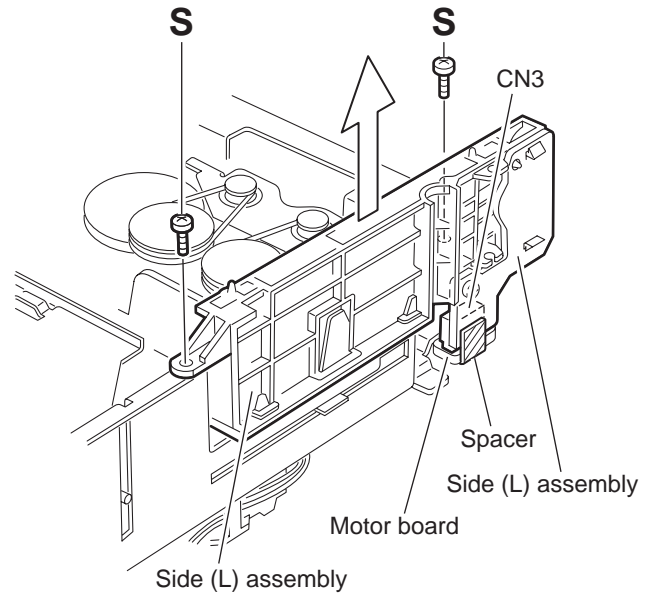

Fig.20
- (2) From the left side of the DVD changer mechanism assembly, removing the spacer fixing the tray switch board and motor board. (See Fig.20.)
- (3) Disconnect the connector **CN3** on the tray switch board from the motor board and detach the side (L) assembly in an upward direction. (See Fig.20.)